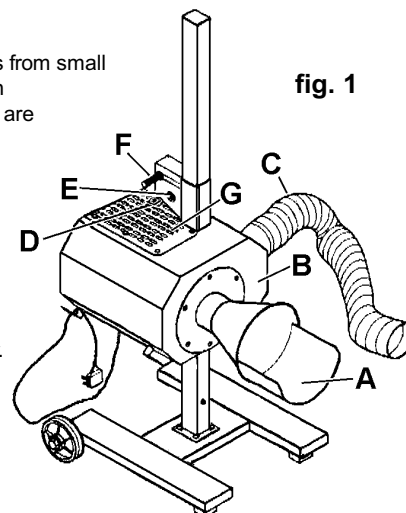
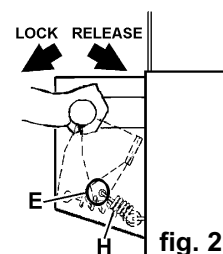

fig. 1
fig. 2
- 3.2. Attach extractor nozzle (fig.1.A) to housing (B) with the four screws and washers. Fit exhaust ducting (C) with jubilee clip.
- 4.2. Place the extraction nozzle (fig.1.A) close to the vehicle exhaust pipe, adjusting the extractor height as necessary by rotating grip (fig.1.F) as shown in fig.2 to release and lock the slide. The mechanism is held in the locked position by a spring (fig.2.H).This spring should be checked, through aperture (figs.1 & 2.E), to ensure it is attached at both ends and undamaged before unlocking slide. If the spring is faulty it must be rectified/replaced before further use.
- 4.3. Route the exhaust ducting (fig.1.C) to outside the building, keeping the ducting as straight and level as is practical. Note that the ducting is relatively easily damaged and should be routed, as far as possible, away from walkways etc.
- 4.4. Connect to the mains supply and turn on extractor at switch (fig.1.D).